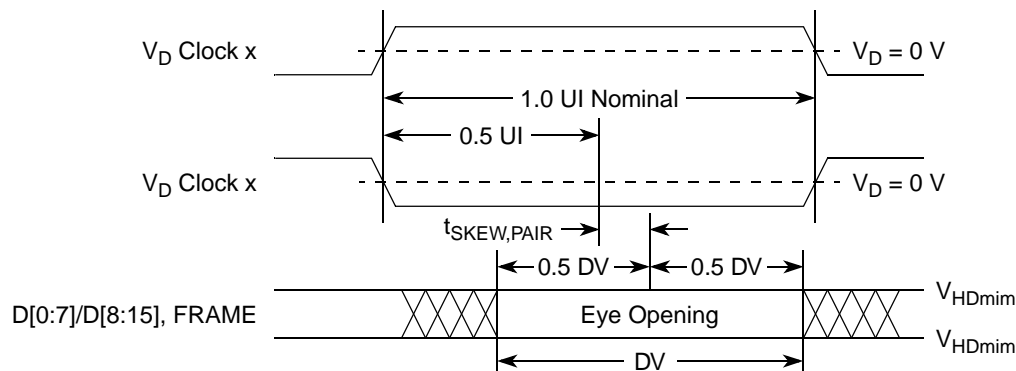
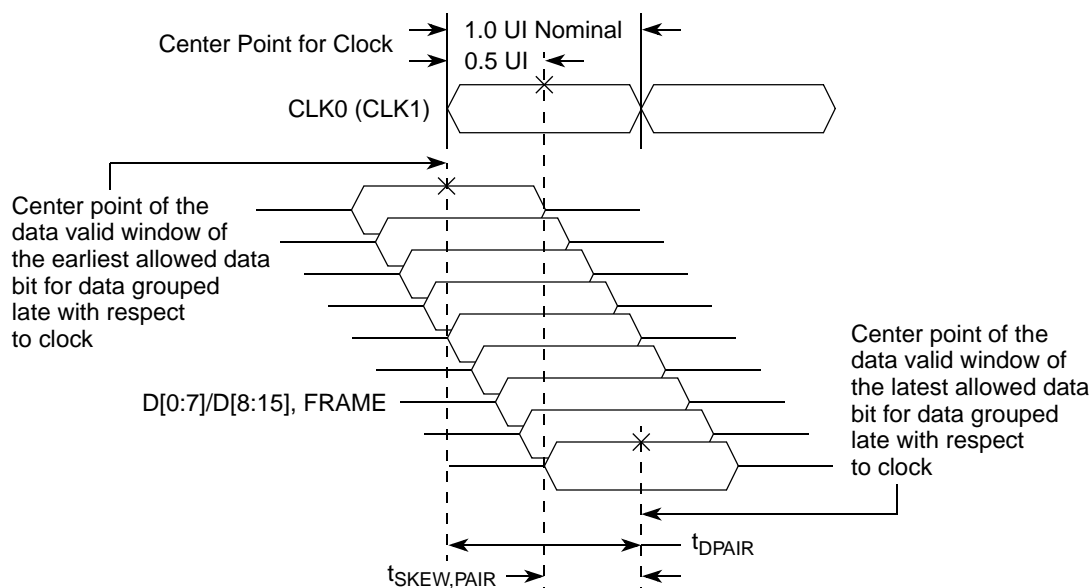

Figure 42. Data to Clock Skew
Figure 43. Static Skew Diagram
- 3.See Figure 43.
- 4.See Figure 42 and Figure 43.
Figure 42 shows the definitions of the data to clock static skew parameter  $t_{\text{SKEW,PAIR}}$  and the data valid window parameter DV. The data and frame bits are those that are associated with the clock. The figure applies for all zero-crossings of the clock. All of the signals are differential signals.  $V_D$  represents  $V_{OD}$  for the transmitter and  $V_{ID}$  for the receiver. The center of the eye is defined as the midpoint of the region in which the magnitude of the signal voltage is greater than or equal to the minimum DV voltage.
Figure 43 shows the definition of the data to data static skew parameter  $t_{\text{DPAIR}}$  and how the skew parameters are applied.